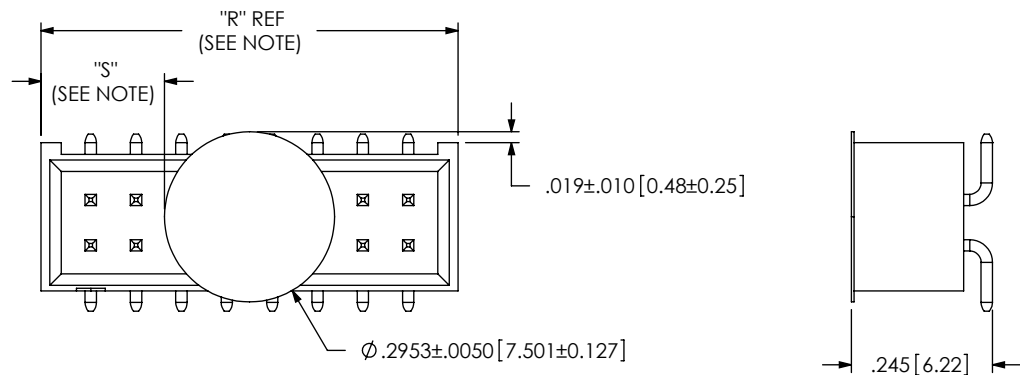

FIG 6 AO
-K: POLYAMIDE FILM (SEE FIG 6, SHT 3) (-SM OPTION ONLY)